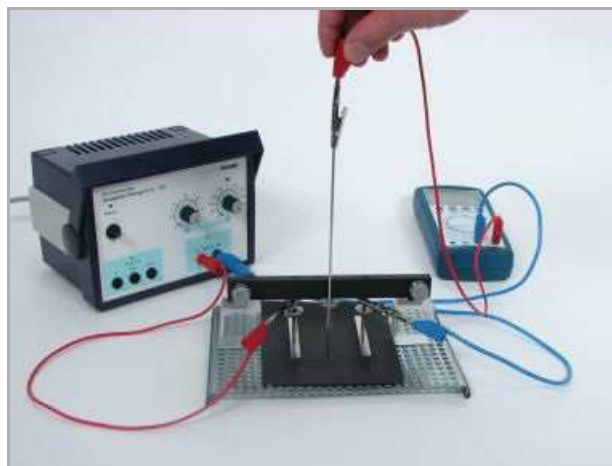

Fig. 16
- Find points on the carbon paper, which have the same electric potential (Fig. 16). For this purpose scan the carbon paper with the tip of the knitting needle and mark the points as small circles with a pencil. Start with a value of 1 V and continue in steps of 2 V. Mark eight points for each value.